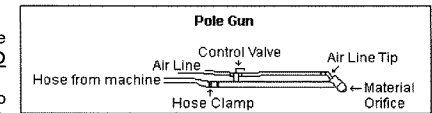

Figure 3
5. Check pole gun (wand), see Figure 3, by looking down the barrel to ensure that no residue remains in the barrel.